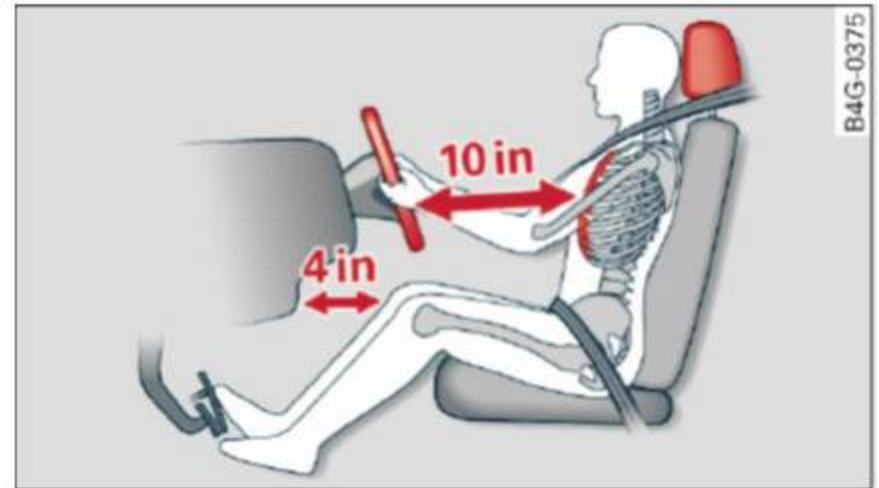

Fig. 119 Correct seating position
- ▶ Adjust the steering wheel so that there is a distance of at least 10 inches (25 cm) between the steering wheel and your breast bone ⇒ *fig. 119*. If not possible, see your authorized Audi dealer about adaptive equipment.